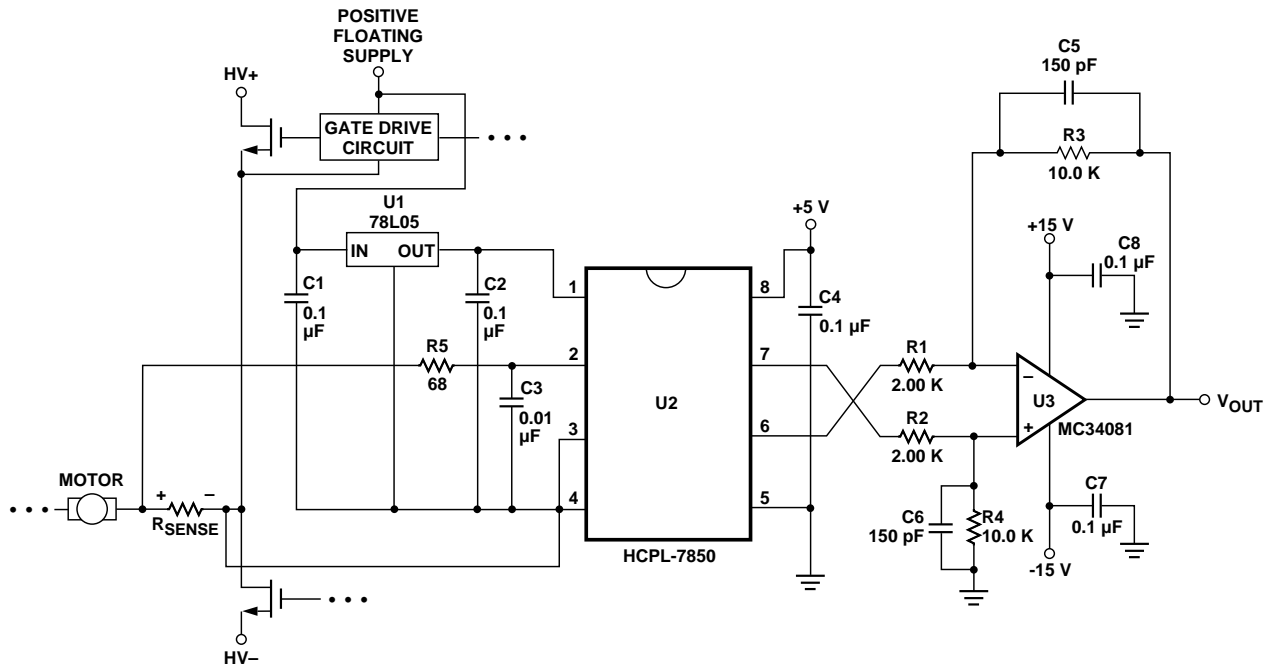

Figure 24. Recommended Application Circuit.
8. CMR (also known as IMR or Isolation Mode Rejection) specifies the minimum rate of rise of a common mode signal applied across the isolation boundary at which small output perturbations begin to occur. These output perturbations can occur with both the rising and falling edges of the common mode waveform and may be of either polarity. A CMR failure is defined as a perturbation exceeding 200 mV at the output of the recommended application circuit (Figure 24). See Applications section for more information on CMR.
The recommended application circuit is shown in Figure 24. A floating power supply (which in many applications could be the same supply that is used to drive the high-side power transistor) is regulated to 5 V using a simple three-terminal voltage regulator (U1). The voltage from the current sensing resistor, or shunt (R_{sense}), is applied to the input of the HCPL-7850 through an RC anti-aliasing filter (R5, C3). And finally, the differential output of the isolation amplifier is converted to a ground-referenced
As shown in Figure 24, a 0.1 μF bypass capacitor (C2, C4) should be located as close as possible to the input and output power supply pins of the HCPL-7850. The bypass capacitors are required because of the high-speed digital nature of the signals inside the isolation amplifier. A 0.01 μF bypass capacitor (C3) is also recommended at the input pin(s) due to the switched-capacitor nature of the input circuit. The input bypass capacitor should be at least 1000 pF to maintain gain accuracy of the isolation amplifier.
The recommended method for connecting the isolation amplifier to the shunt resistor is shown in Figure 24. Pin 2 ($V_{\text{IN}+}$) is connected to the positive terminal of the shunt resistor, while pin 3 ($V_{\text{IN}-}$) is shorted to pin 4 (GND1), with the power-supply return path functioning as the sense line to the negative terminal of the current shunt. This allows a single pair of wires or PC board traces to connect the isolation amplifier circuit to the shunt resistor. In some applications, however, supply currents flowing through the power-supply return path may cause offset or noise problems. In this case, better performance may be obtained by connecting pin 3 to the negative terminal of the shunt resistor separate from the power supply return path. When connected this way, both input pins should be bypassed. Whether two or three wires are used, it is recommended that twisted-pair wire or very close PC board traces be used to connect the current shunt to the isolation amplifier circuit to minimize electromagnetic interference to the sense signal.
The recommended application circuit (Figure 24) includes a post-amplifier circuit that serves three functions: to reference the output signal to the desired level (usually ground), to amplify the signal to appropriate levels, and to help filter output noise. The particular op-amp used in the post-amp is not critical; however, it should have low enough offset and high enough bandwidth and slew rate so that it does not adversely affect circuit performance. The offset of the op-amp should be low relative to
To maintain overall circuit bandwidth, the post-amplifier circuit should have a bandwidth at least twice the minimum bandwidth of the isolation amplifier, or about 200 kHz. To obtain a bandwidth of 200 kHz with a gain of 5, the op-amp should have a gain-bandwidth greater than 1 MHz. The post-amplifier circuit includes a pair of capacitors (C5 and C6) that form a single-pole low-pass filter. These capacitors allow the bandwidth of the post-amp to be adjusted independently of the gain and are useful for reducing the output noise from the isolation amplifier (doubling the capacitor values halves the circuit bandwidth). The component values shown in Figure 24 form a differential amplifier with a gain of 5 and a cutoff frequency of approximately 100 kHz, and were chosen as a compromise between low noise and fast response times. The overall recommended application circuit has a bandwidth of 66 kHz, a rise time of 5.2 μs and a delay to 90% of 8.5 μs .